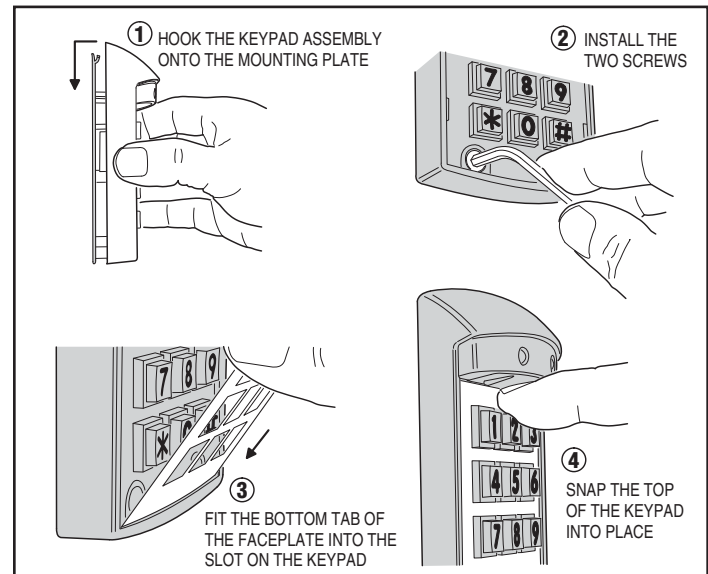

Figure 6. Connecting the Keypad to the Mounting Plate
- ❑ Hook the keypad assembly onto the mounting plate tab (see Figure 6).